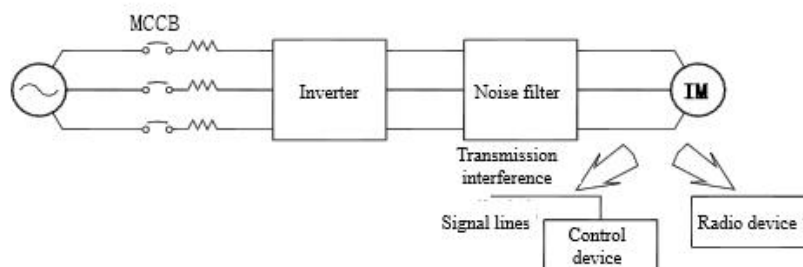

Fig. 3-7 Noise Filter Installation on Output Side
- The noise filter installation on the output side is shown in Fig. 3-7.